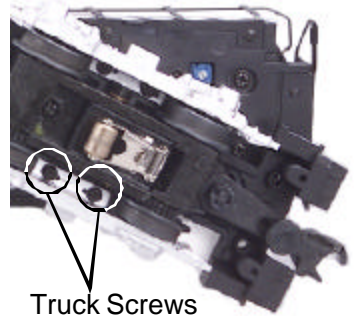

Figure 4. Screws to Remove to Access the Traction Tires
First, remove the truck sides from the truck block. To do this, turn your engine upside down. If there are visible Phillips screw heads between the truck frame and truck block (see Fig. 4), go to step A. If not, go to step B.
B. Remove the trucks from the chassis and the truck sides from the trucks in order to slip the new tire over the grooved drive wheel. See Fig. 4 for which screws you must remove to do this.
Follow the cab removal instructions found in the "Lubrication and Greasing" section of this booklet. Once the body has been removed, remove the lightbulb as shown in Fig. 4 and replace it.